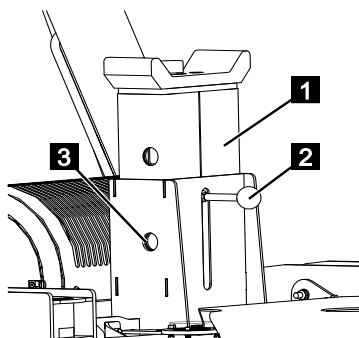

Fig. 112
5. Pull the telescopic boom support (Fig.112/1) upwards by the handle (Fig.112/2) until the desired holes (Fig.112/3) align.